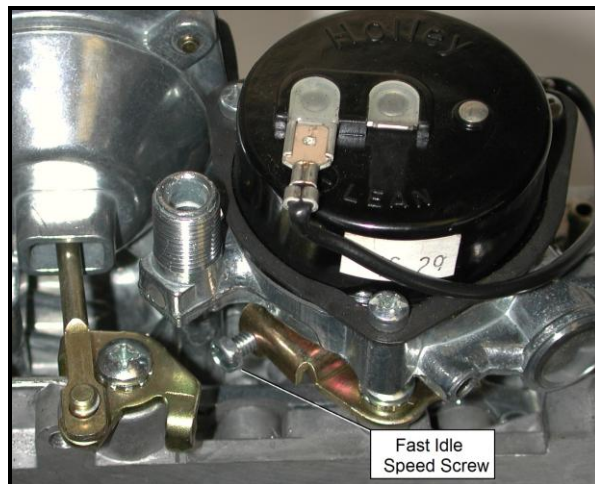

Figure 8
2. If the fast idle RPM is too low or too high for your preferences, SHUT DOWN THE ENGINE! Advance the throttle to wide-open, exposing the fast idle set screw below the choke housing (See Figure 8).